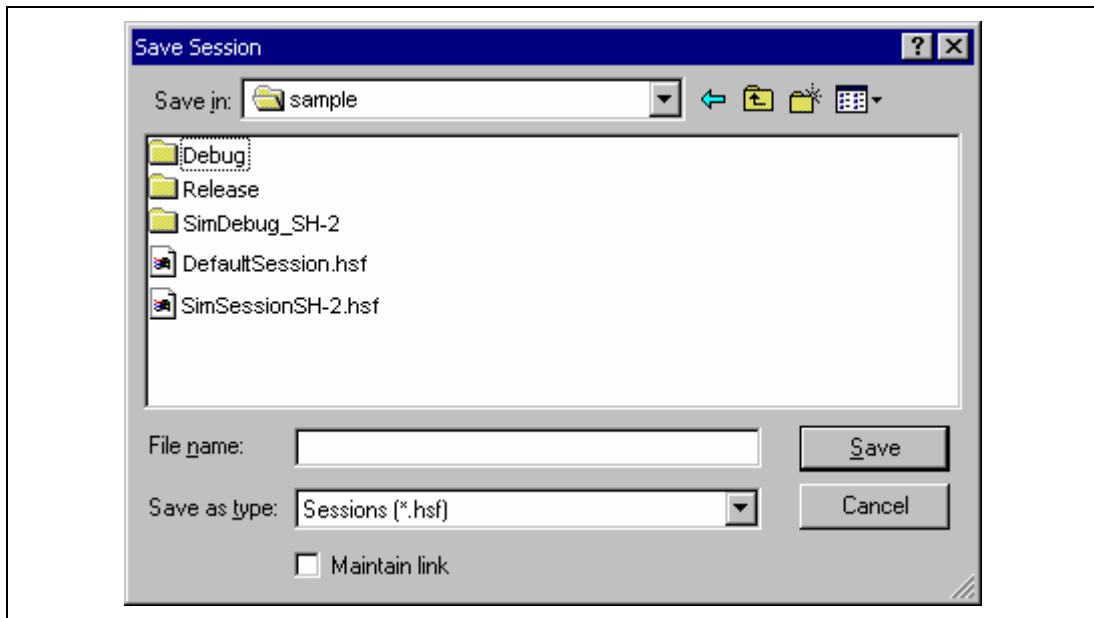

Figure 4.34 [Save Session] Dialog Box
3. Click the [Save as...] button to display the [Save Session] dialog box (figure 4.34).